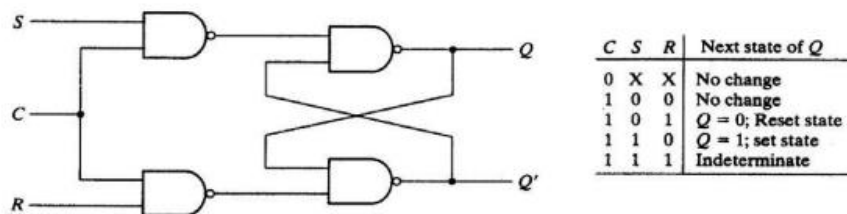

Figure4: SR latch with control input 4
A control input (C) can be added to the SR Latch. If  $C=0$  the output Q will not be changed for any values of R and S but if  $C=1$  the circuit will work normally as shown in Figure4